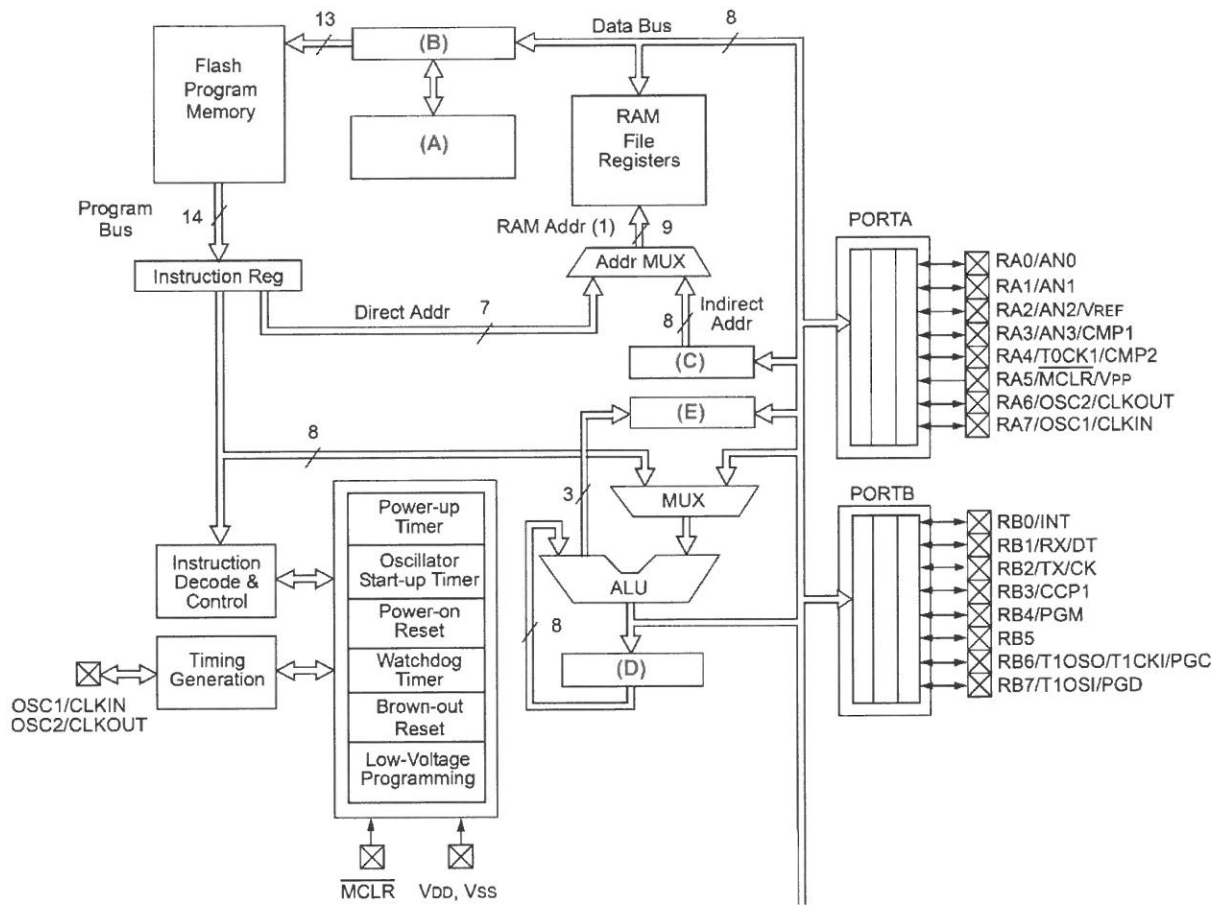

Figure 6(c) Internal architecture.
- (c) Name and describe the function of the following labels as shown in Figure 6(c).
- (i) Label (A)
State the possible type of microcontroller for Figure 6(c) internal architecture.